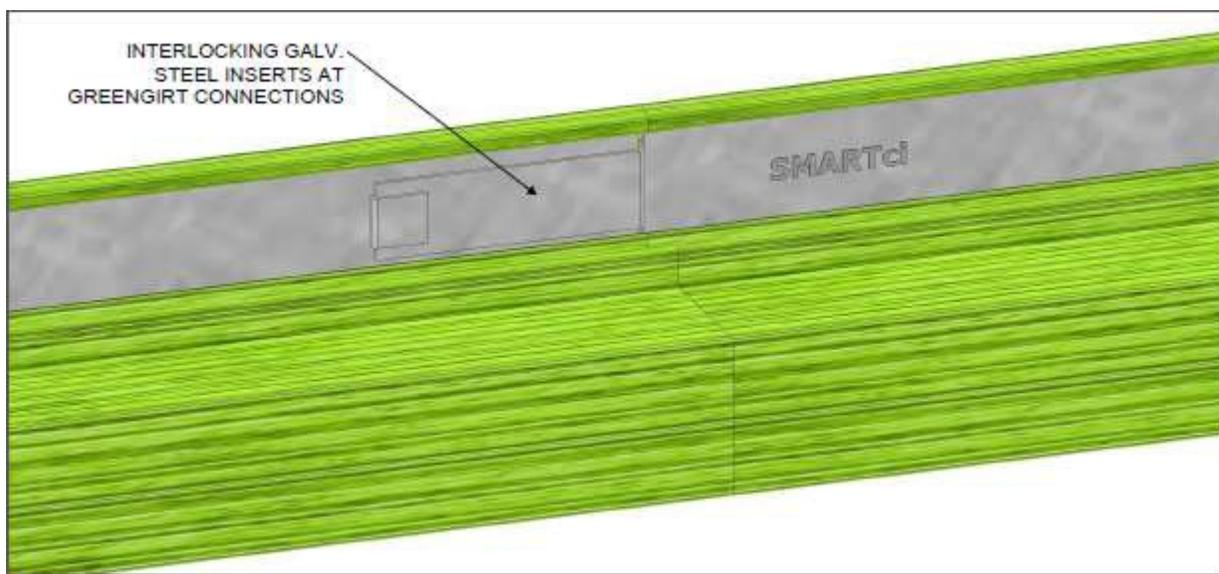

Figure 4: A continuous metal attachment structure is used for the NFPA 285 test.
- SMARTci systems with GreenGirt CMH provides redundant load distribution outside the fire area. This setup is done through a continuous metal attachment structure outboard the insulation via vertical and/or horizontal steel inserts (see Figure 4). The inserts extend past the fire damage triangles, allowing distribution of the load to non-flammable support structures and/or areas outside the fire zone.